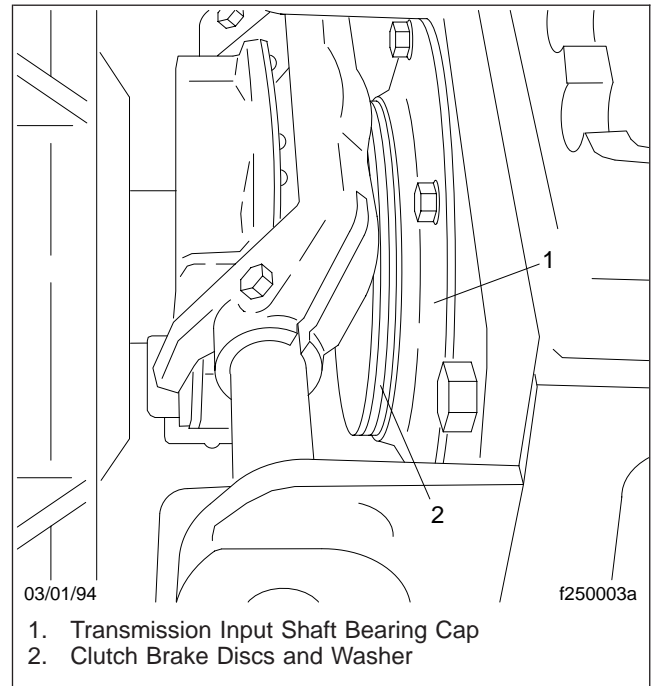

Fig. 5, Position the Clutch Brake
3. Slide the clutch-brake discs and washer, or torque-limiting clutch brake, tight against the transmission input shaft bearing cap. See Fig. 5. Also, slide the release-bearing as far as possible towards the transmission.